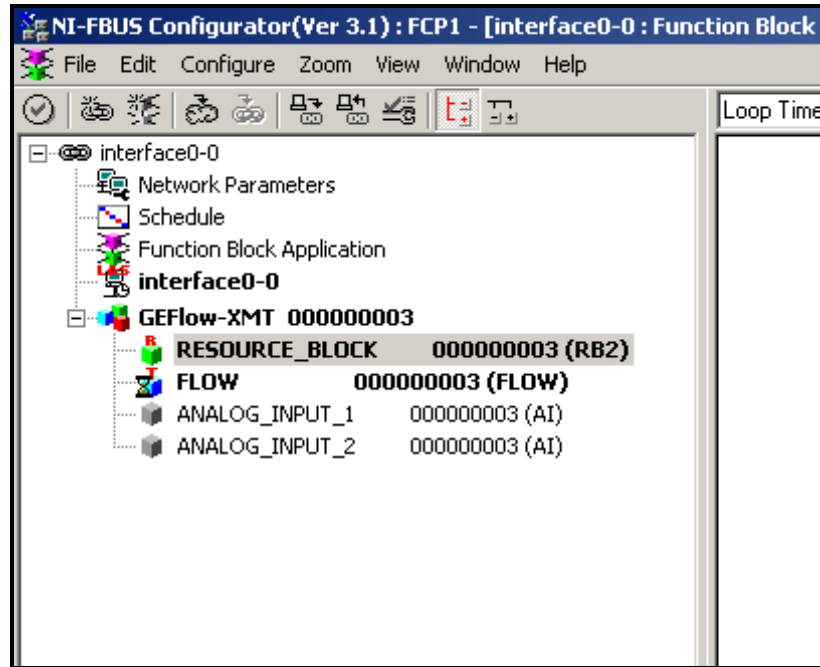

Figure 47: Configuration Utility Setup Example
Figure 47 shows the Configuration Utility with a flowmeter on the network (GE Flow-XMT).
1. Double click on the AI block for which you wish to set the units (ANALOG_INPUT_1 or ANALOG_INPUT_2 in the tree under GEFlow-XMT; see Figure 47 on page 62).
1. Double click on the FLOW transducer block (in the tree under GEFLOW-XMT; see Figure 47 on page 62).